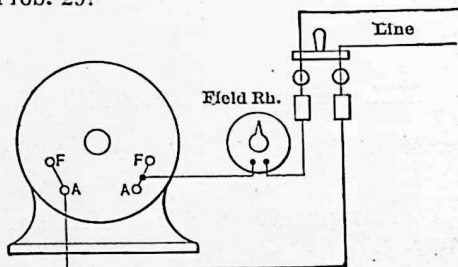

FIG. 159.
**Prob. 32.** Is the shunt generator in Fig. 159 connected to the line correctly? If not, make the proper connections.
**Prob. 40.** Connect the generator in Fig. 159 to run as a motor.